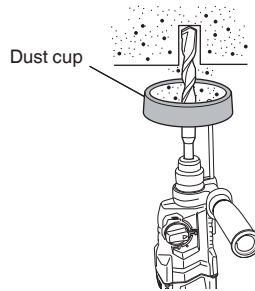
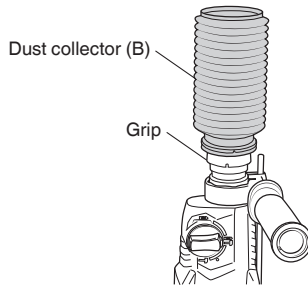

Fig. 3
Fig. 4
5. Installation of dust cup or dust collector (B) (Optional accessories) (Fig. 3, Fig. 4)
Use the dust cup by attaching to the drill bit as shown in Fig. 3.
- Installing dust collector (B)
When using dust collector (B), insert dust collector (B) from the tip of the bit and allow it to cover the grip (Fig. 4).